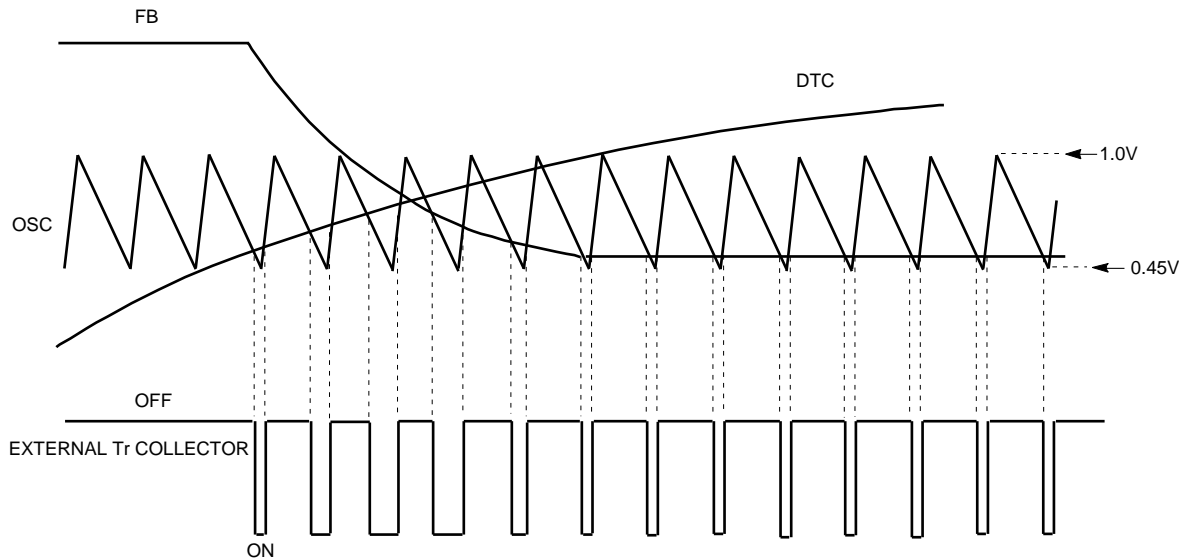

Fig. 1
1) Soft Start (The peripheral circuit is shown in Fig.1)